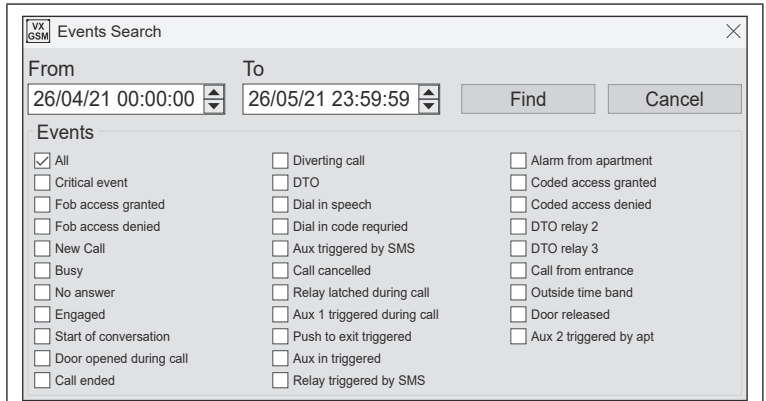

Fig. 76
- After a brief delay the event search window will appear, **Fig.76**.